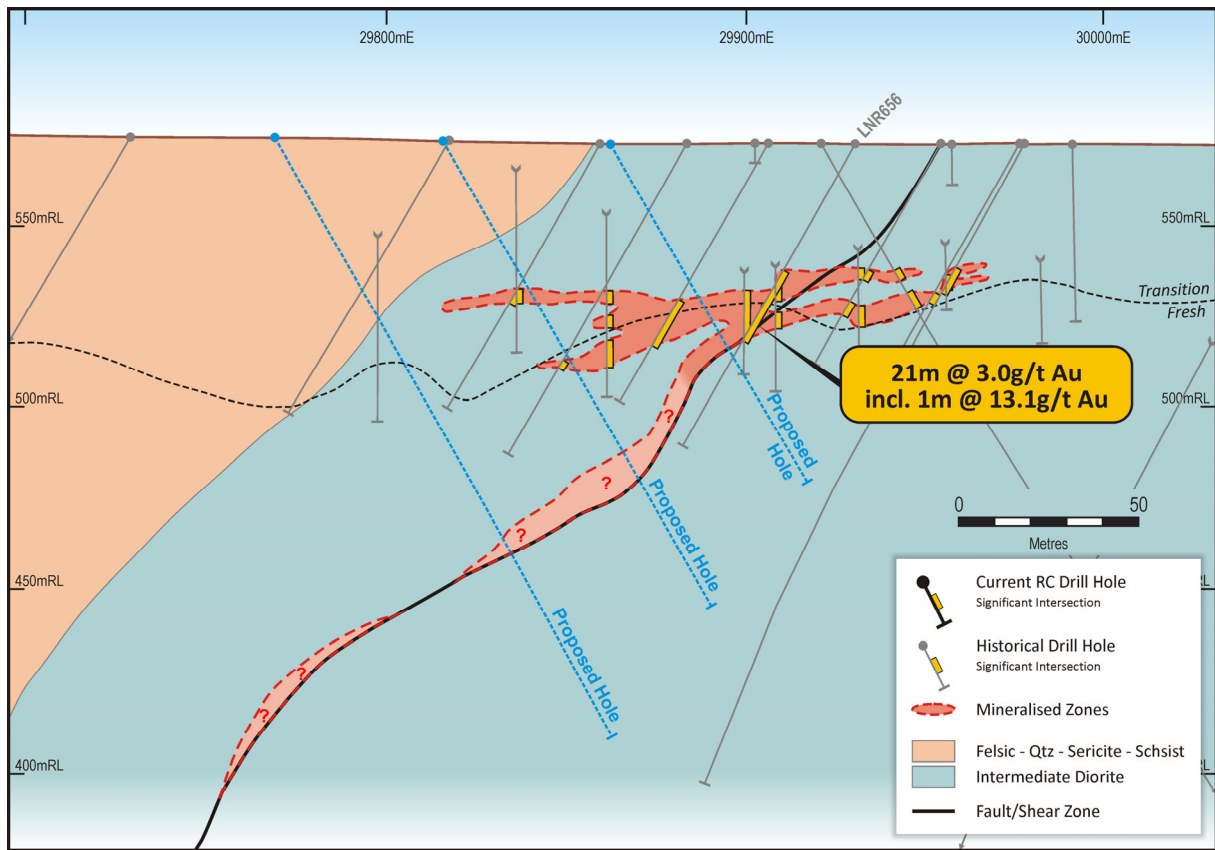

Figure 4: Ned's creek, Contessa Prospect, Cross section 29,690mN
- **21m @ 3.0 g/t Au from 40m incl. 1m @ 13.1 g/t Au** in **LNR656** section 29690mN (Figure 4).